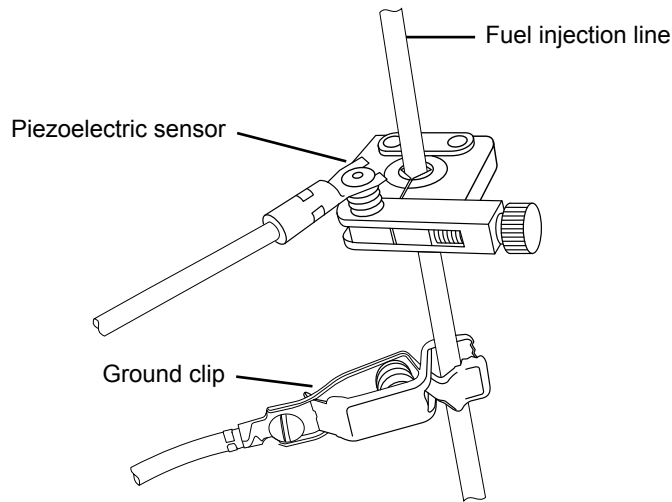

Fig. 3 - Piezoelectric sensor and ground clip on fuel line
- 1- Clamp the piezoelectric sensor onto a clean unpainted section of any diesel injection pipe. Do not over tighten the thumb screw (see Fig. 3)
- Fit the piezoelectric sensor to a clean unpainted section of an injection line. Then connect the ground clip to that same clean section of the injection line as shown in Fig. 3. or to a convenient ground in the engine. If necessary scrape and sandpaper the line in order to expose the metal surface.